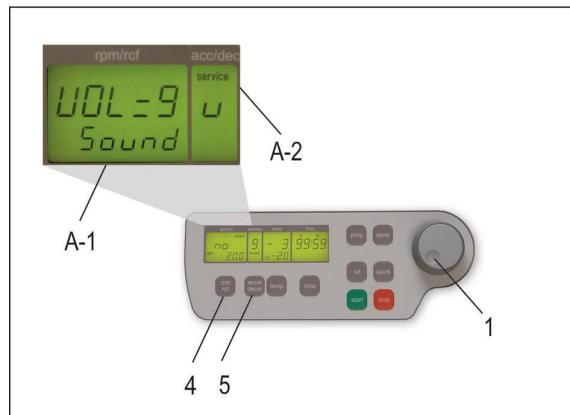

Figure 7
Proceed as described under point 1.8.2 to enter this program mode and then press the key „accel/decel“ (5). In the display „accel/decel“ (A-2) flashes the word „service“. Now select the letter „U“ with the adjusting knob (1). As a result appear in the display „rpm/rcf“ (A-1) the words „Vol=0- 9/Sound“. After pressing the key „rpm/rcf“ (4), you can adjust the desired volume between 0 (low) and 9 (loud) with the adjusting knob (1) (see figure 7).